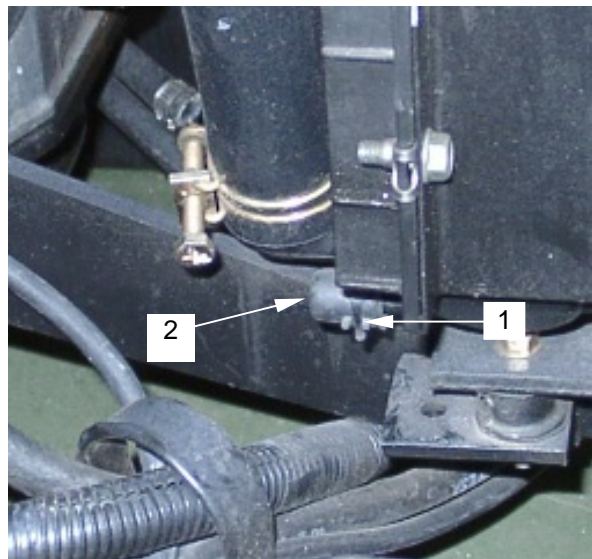

Figure 8. Radiator Drain Plug
- b. Loosen and remove the drain plug hose clamp (**figure 8, item 1**) and drain plug (**figure 8, item 2**) on the radiator and drain the coolant into an approved container.
- d. Install the drain plug (**figure 8, item 2**) and hose clamp (**figure 8, item 1**).